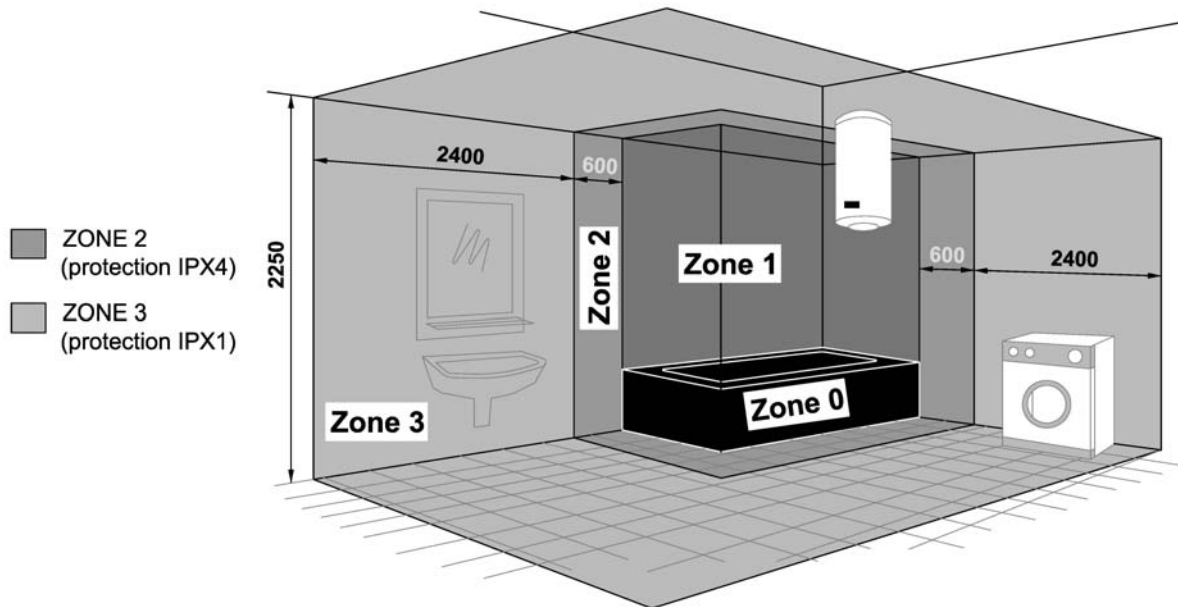

Fig. 1: Bathroom zone classification
- The controller is Class I water-proof. For bathroom installations, it should be located in Zone 3 (see Fig. 1) so that the control unit is out of reach of people using the shower or bathtub.